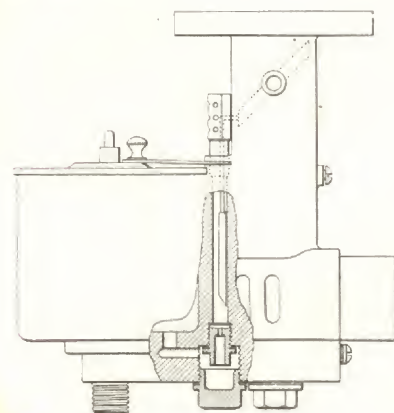

Fig. 27.
**SLOW-RUNNING DEVICE, 1911 (Models D, E. and F, Fig. 27).** This device was practically the same as the previous one, with the exception that the dip tube, instead of being a fixture, was made telescopic, and the slow-running was adjusted by sliding the outer tube up or down. To draw up more petrol the tube was lengthened, and to weaken the mixture *vice versa*.